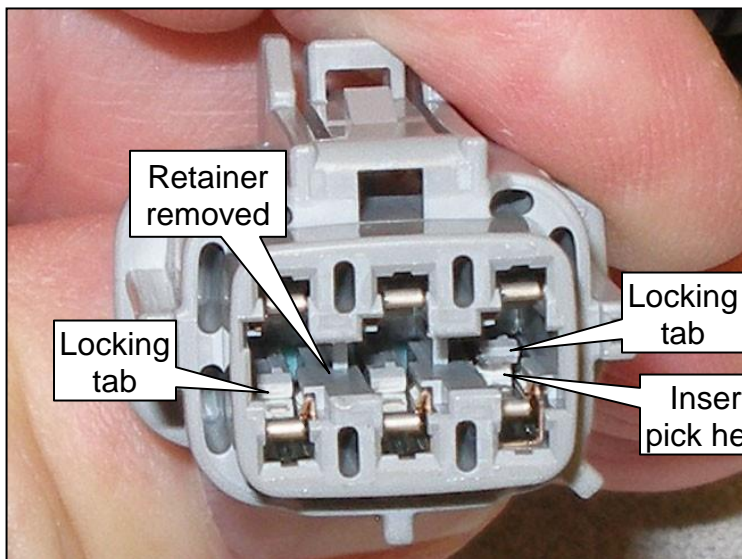

Figure 7
- The right side locking tab in Figure 7 is shown in the unlocked position.